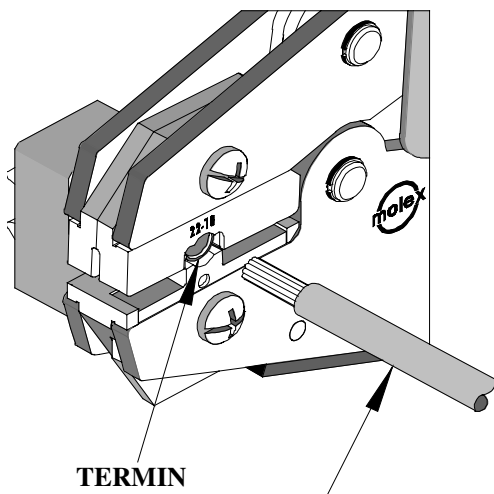

Figure 2
2. Partially close the tool to hold the terminal in place (See Figure 2).
3. Insert the properly stripped wire into the terminal barrel (See Figure 2 and 3). Cycle the tool.